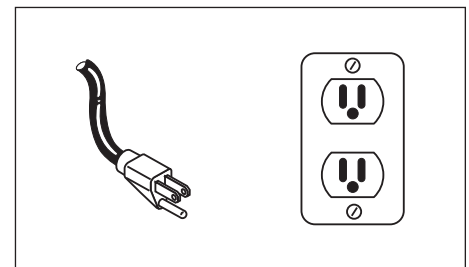

Figure 11 - Grounding method
1. This product is for use on a nominal 120 volt circuit and has a grounding plug that looks like the plug illustrated in *Figure 11*. Only connect the product to an outlet having the same configuration as the plug. Do not use an adapter with this product. In the event of an electrical short circuit, grounding reduces risk of electrical shock by providing an escape wire for electric current. This product is equipped with a cord having a grounding wire with an appropriate grounding plug. Plug must be plugged into an outlet that is properly installed and grounded in accordance with all local codes and ordinances.